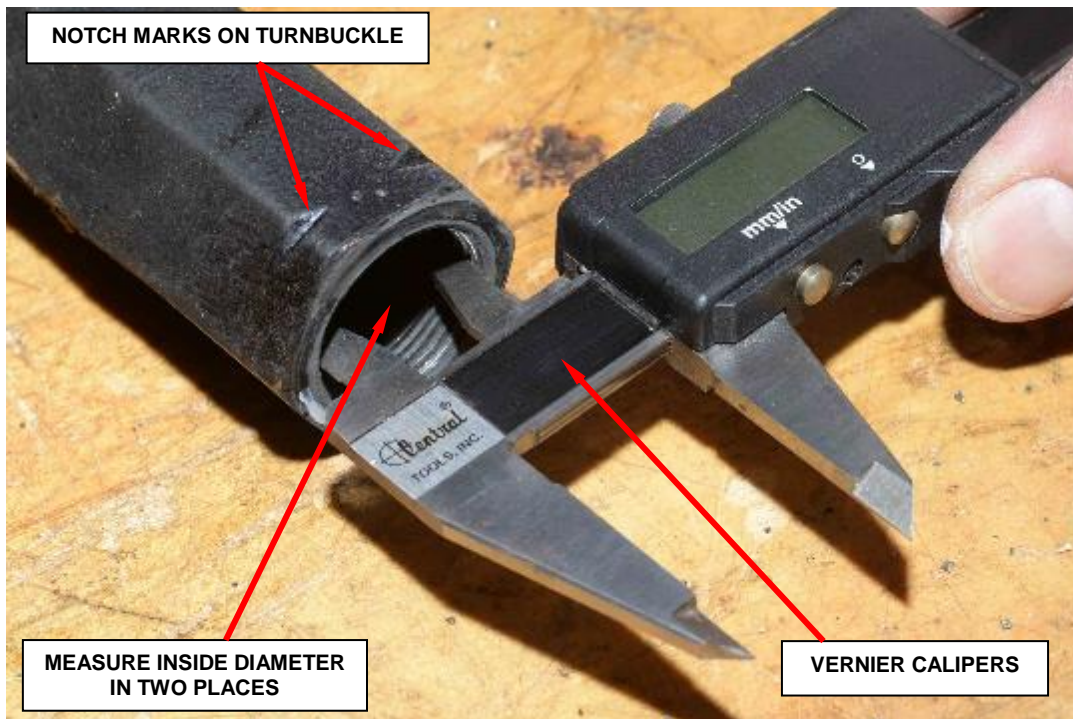

Figure 5 – Measure Inside Diameter of Turnbuckle at Notched End
4. Using Vernier Calipers, measure and record the inside diameter of the turnbuckle (end with notch marks on hex) (Figure 5).